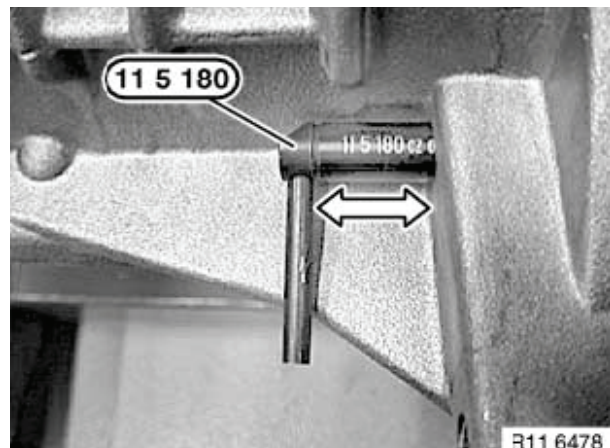

Figure 5-96
13. **NOTICE: NEVER rotate the crankshaft backward. If the crankshaft is turned past TDC, rotate two more turns (720°) to bring No. 1 piston back to TDC. Secure crankshaft in TDC position with flywheel holding tool (**Figure 5-96**).**